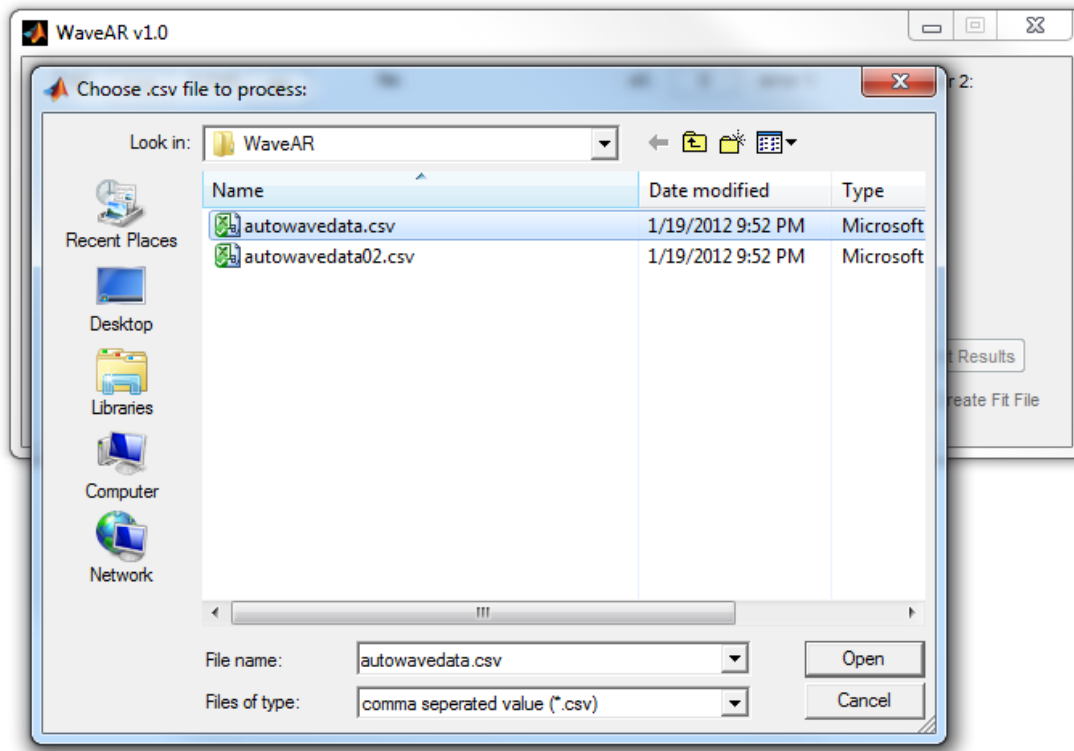

Figure 3. File browser dialog to select the .csv file for processing.
- 2) After the WaveAR window(s) appear, the user loads data by clicking the “**Get Data**” button. This opens a standard file browser. The user simply selects the appropriate comma separated value (.csv) file to process, and clicks the “Open” button to load and process the file (Figure 3).